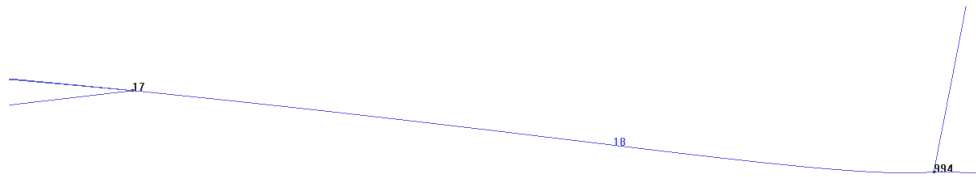

Figure 10. The situation after collapsing the lines
- 3 . Then select line 2869. Press **ESC** twice. After the cut is made, the result will be as illustrated in Figure 10.